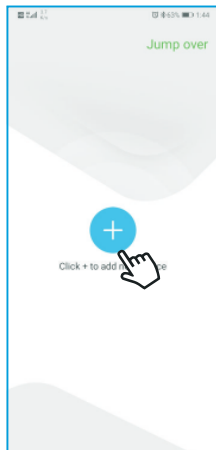

Fig. 5-3
Step 2: Mobile phone connected to WiFi, log in to the registered account and enter the setting interface - WiFi setting - Smart setting WiFi - Color screen host, Fig.5-3,5-4,5-5,5-6.